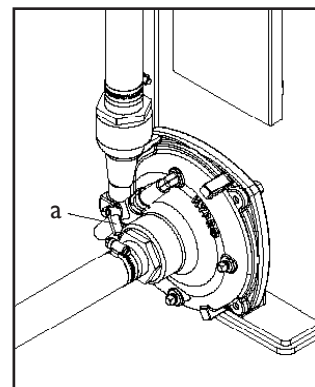

Figure 5: Pump priming with bleeder valve
5. If your pump is equipped with a bleeder valve (a), open the valve with the tractor off until there is a steady flow of liquid out of the hose, indicating that there is no more air in the system (Figure 5).